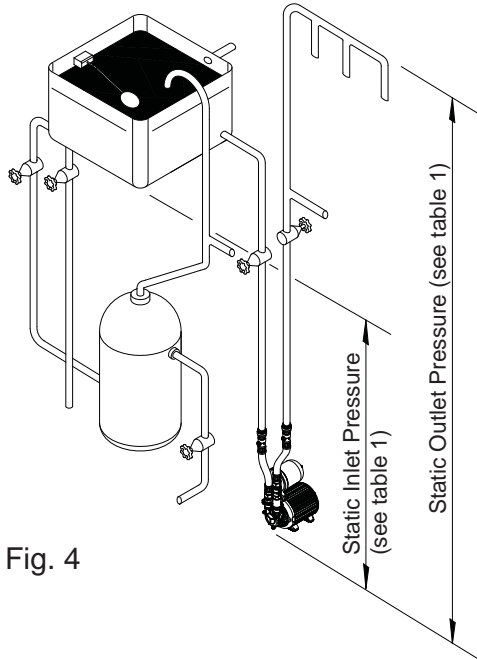

Fig. 4
- 2.25 **Preferred pump location:** The preferred pump location is at floor level next to the hot water cylinder or a level that is below the secondary tapping that feeds the pump. This will ensure the pump has access to an air free water supply which is important for trouble free operation (Figs. 4 & 5). Pump location is also dependent on limitations of the static inlet and outlet heads of the installation. For guidance on limitations and recommended location, consult the following relevant section for hot or cold water installation.